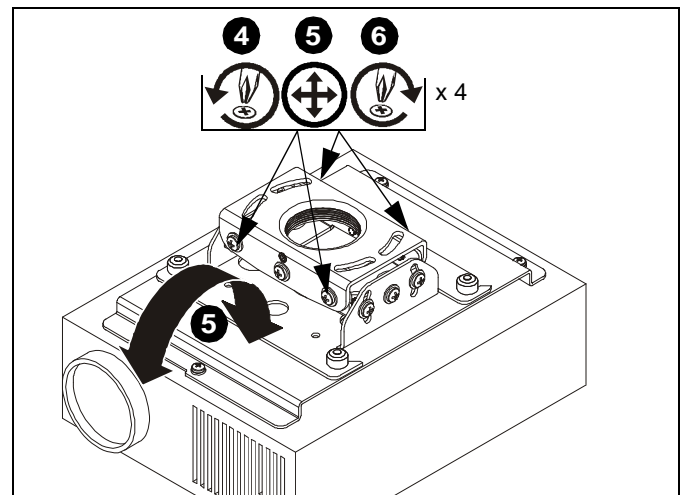

Figure 10
5. Adjust projector to desired position. (See Figure 10)